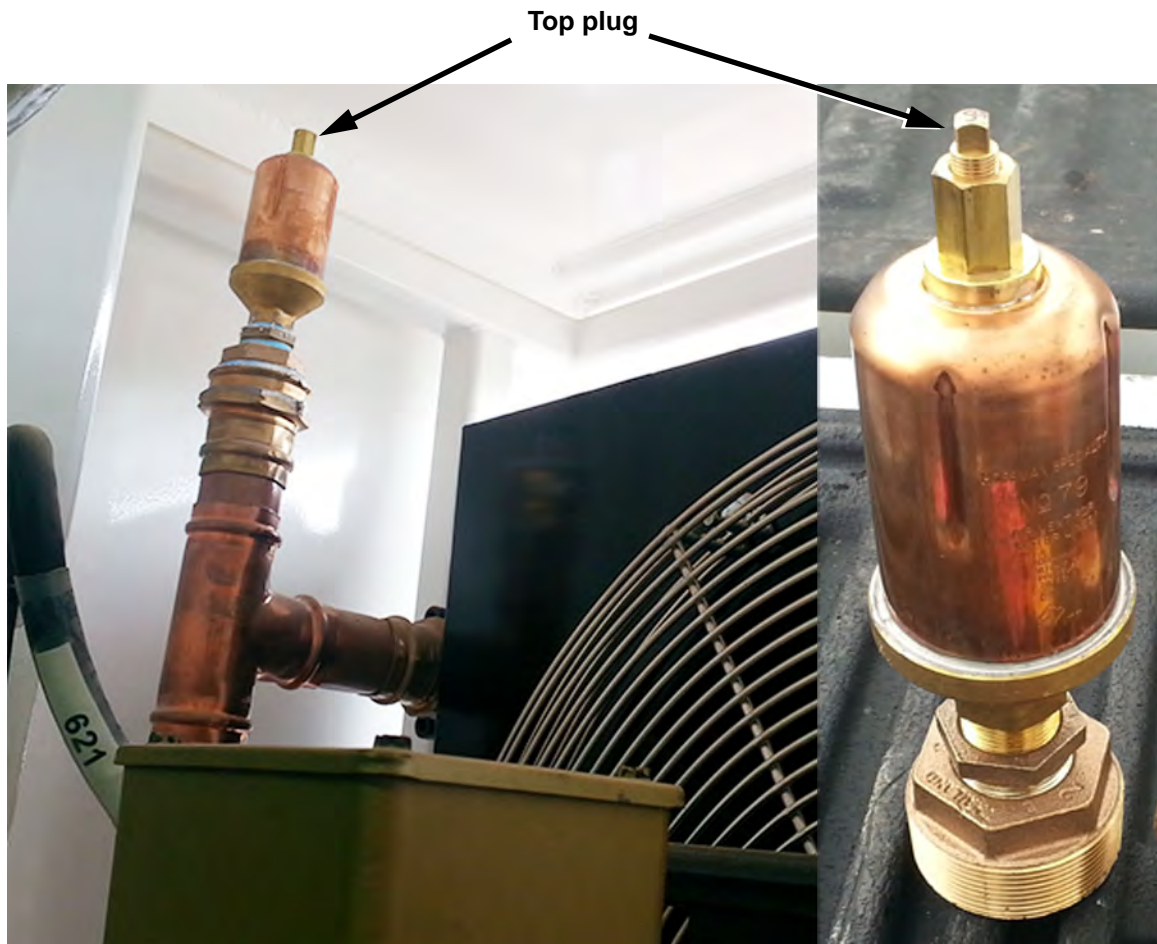

Figure 7: Bleeder Valve Top Plug
1. Remove the top plug from the bleeder valve. (See Figure 7.)
14. Close the top plug on the bleeder valve. Refer to Figure 7 on page 9.